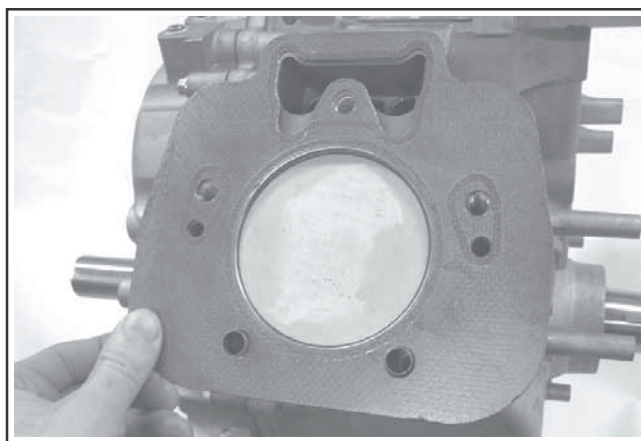

Figure 10-47. Installing New Head Gaskets.
2. Check that the dowel pins are in place in the two lower locations, and install a new cylinder head gasket, (printed side up). See Figure 10-47.